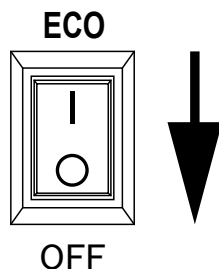

Figure 18. ECO Mode Switch
4. Turn the ECO Mode Switch to the OFF position (Figure 18).